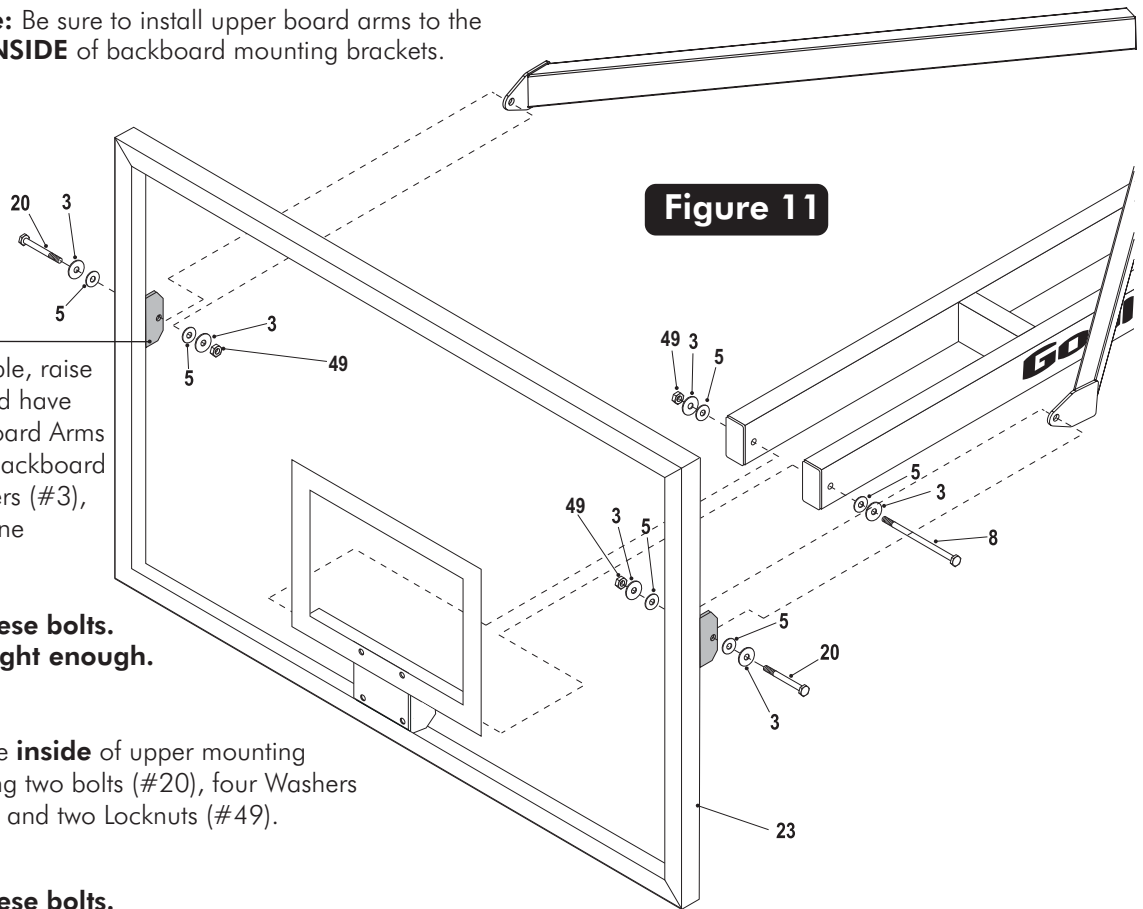

Figure 11
14. With at least four capable people, raise the backboard assembly up and have the fifth person attach Lower Board Arms to the Rim Support (#21) on backboard using one bolt (#8), two washers (#3), two Plastic washers (#5) and one Locknut (#49). See Figure 11.
15. Attach Upper Board Arms to the **inside** of upper mounting brackets on the backboard using two bolts (#20), four Washers (#3), four Plastic Washers (#5) and two Locknuts (#49). See Figure 11 and Detail A2.